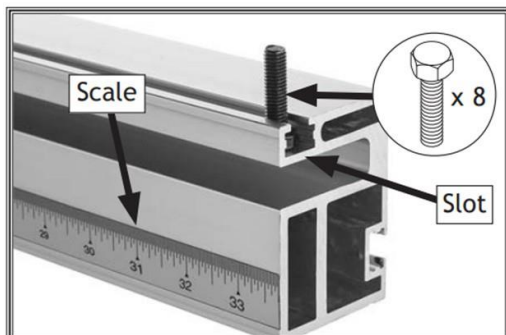

Figure 18: Position of the hex bolts on the front rail.
11 - Position the rail so in such way that its scale is facing you. Slide (8) M8-1.25X30mm hex bolts into the open slot (see figure 18).